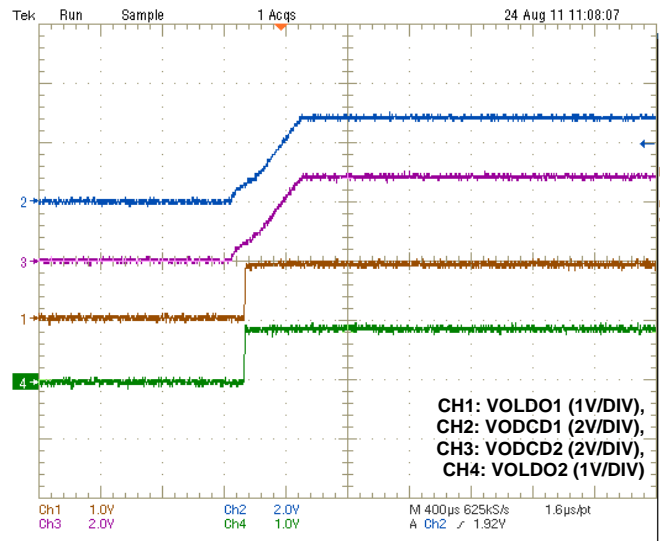

FIGURE 2. 4-CHANNEL POWER UP AFTER ENABLE
8. Monitor 4 channel power sequencing. The waveforms will look similar to Figure 2.